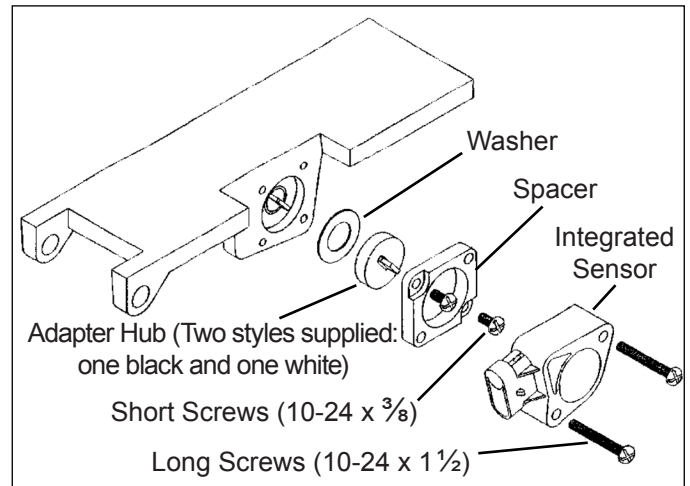

FIGURE 2 — EXPLODED VIEW OF REPLACEMENT KIT
- 1A. Where all four mounting holes align:** Discard the white adapter hub supplied. Place the washer and (black) adapter hub in the spacer. Make sure that the slot in the adapter hub fits over the tang on the pedal, and using the holes as shown in Figure 2, mount the spacer on the side of the pedal using the short mounting screws. Tighten to 20-25 in-lbs.